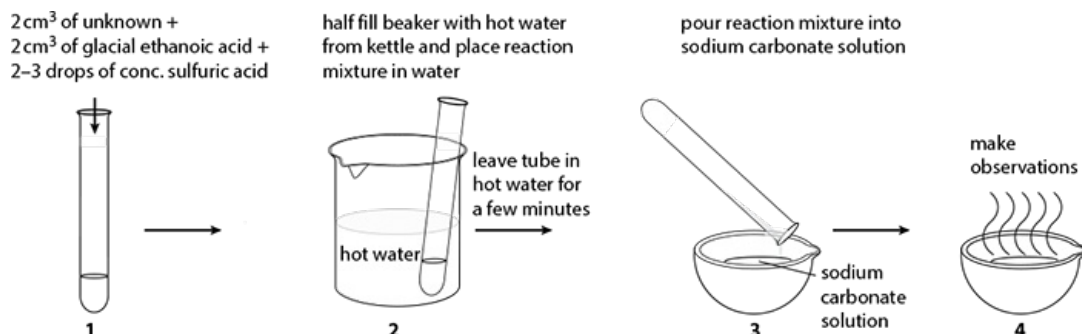

Figure 10.3: Testing for the alcohol (R-OH) group
- 1 For the compound that tested positive for a hydroxyl group in Part 1 but tested negative for a carboxyl group in Part 2a, complete the procedures shown in Figure 10.3.